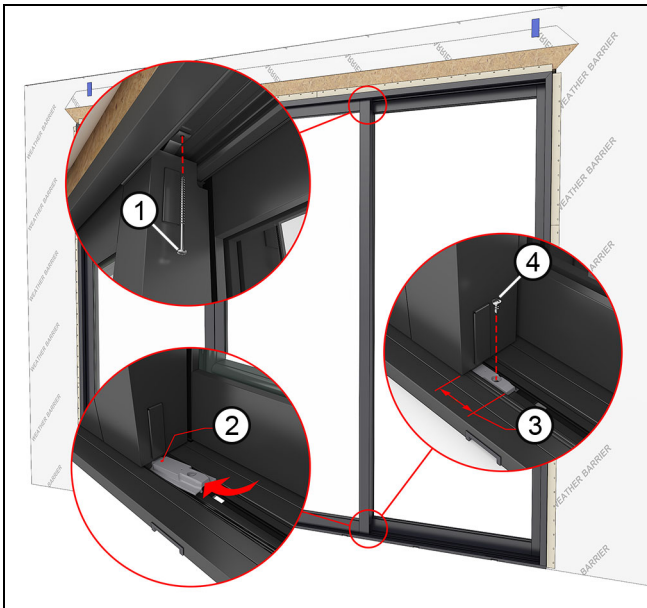

Figure 123
13. Snap the lower stationary bracket onto sill, slide underneath the panel until fully seated. Bracket should stick out approximately 2 1/4" from the panel when fully seated. Secure with a #8 x 1/2" Phillips self-drilling screw through the bottom stationary bracket into the sill. See Figure 123 (2, 3, and 4).
14. Bend top stationary bracket of (C) stationary panel up against the head jamb, pre-drill a 3/16" hole through the head jamb using the bracket as a template. Fasten through the bracket into the head jamb framing with a #10 x 3" installation screw. Shim as needed taking care not to bow the head jamb. See Figure 123 (1).